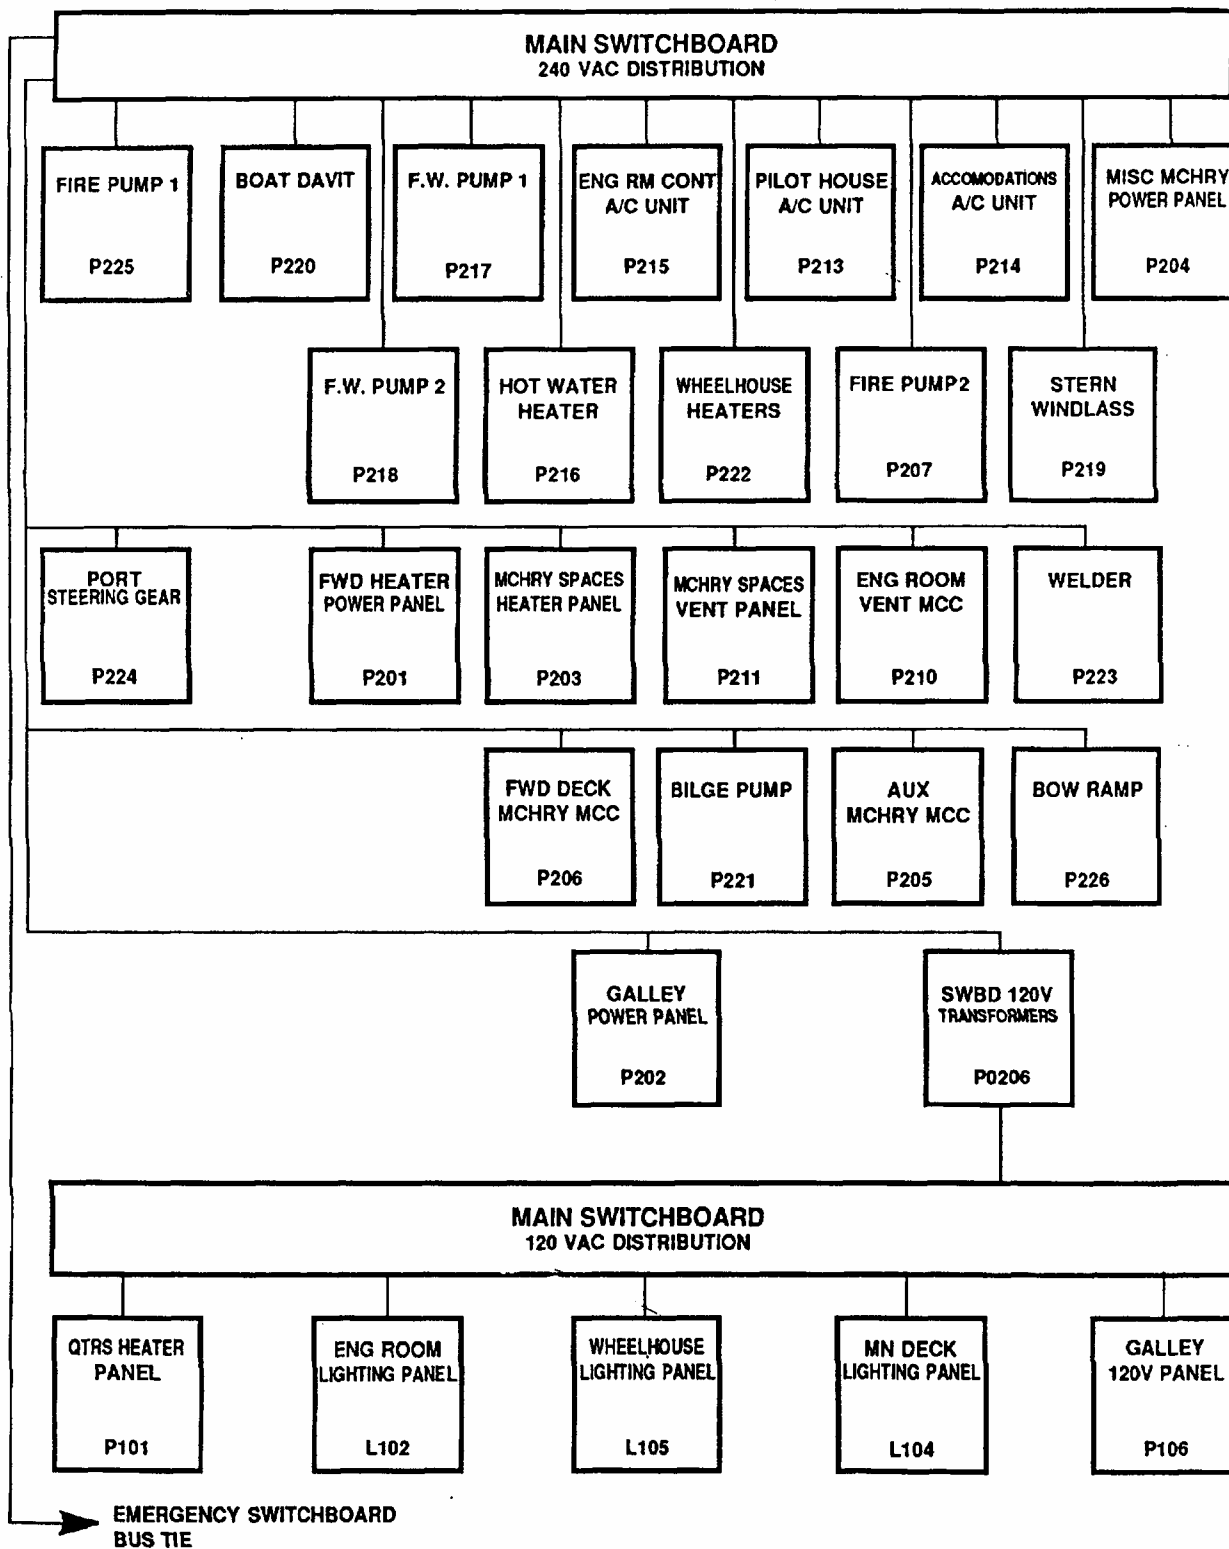

FIGURE 1-30. Main Switchboard
c. Main Switchboard The main switchboard (FIGURE 1-30), located in the engine room operating station, provides generator selection, shore power selection, and power distribution for ship's service 240 Vac and 120 Vac power. Distribution of 120 Vac is accomplished by ship's service 120 Vac isolation transformer located in the engine room operation station. The emergency switchboard bus tie provides 240 Vac to the emergency switchboard. Power selection is provided by closing circuit breakers on the switchboard. Power monitoring is provided by ammeters, voltmeters, frequency meters, and synchronization meters. Controls are provided for manual and automatic generator voltage regulation and generator engine speed regulation. The switchboard bus tie also serves as an emergency 240 Vac power feedback source for the main switchboard from the emergency switchboard, to power selected equipment systems during emergency power conditions. An interlock system is incorporated into the switchboard to prevent shore power from being applied to the switchboard while generator power is applied. The interlock system also prevents the emergency switchboard emergency generator circuit breaker from being closed.